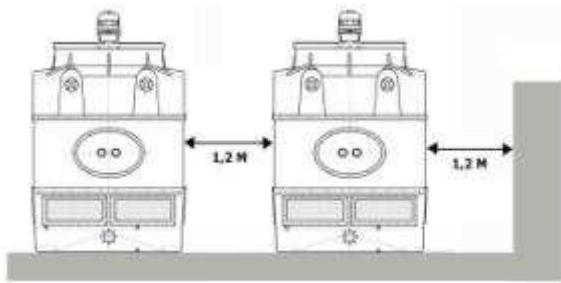

Fig. 20
- d) Due to reasons of operation and maintenance, a distance of, at least, 1,2 meters must be kept between the tower and the nearby walls or between two towers (Figure 20).